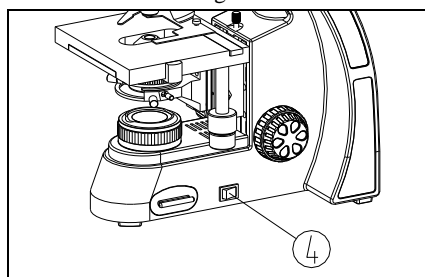

Fig. 3
6. For safety, make sure the power switch ④ is at "0" (off) and power it off before replacing the bulb or fuse, and wait until the lamp cools down (see Fig. 3).